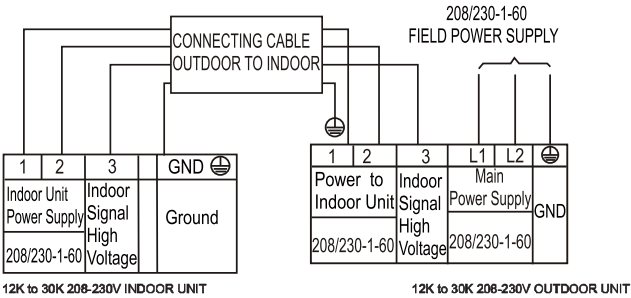

Fig. 26 — Connection Diagrams
2. Connect wiring from the outdoor unit per the connection diagram (see Fig. 26).